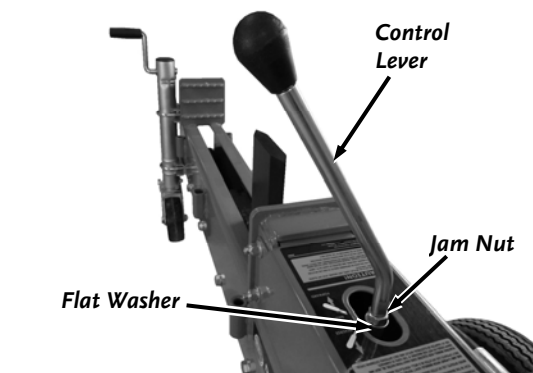

Figure 17
27. Remove the Nut and Flat Washer from the Control Lever threads and reinstall the Nut all the way onto the threads (**Figure 17**).